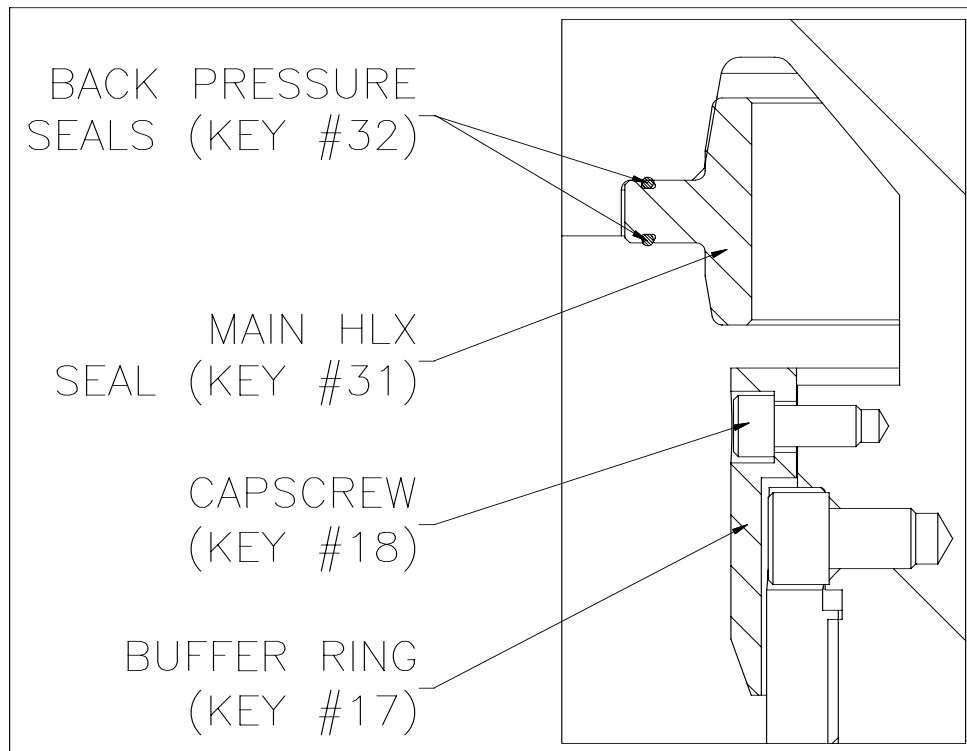

Figure 6.5: HLX Seal Replacement
For removal and assembly of the HLX seal, please refer to Assembly Drawing (section 7.0) and Figure 6.5 below and proceed as follows:
1. Remove the four capscrews (item 18) retaining buffer ring (item 17) to insert. While supporting HLX seal (item 31), remove buffer ring (item 17), which is a two-piece, split ring assembly. Remove HLX seal (item 31). (See Figure 6.5).
2. Ensure back pressure seals (item 32) are installed into HLX seal (item 31). (See Figure 6-5)
3. Install HLX seal, being careful not to damage the outside diameter of the seal (See Figure 6-5).
4. Reinstall buffer ring (item 17), aligning holes in ring with corresponding holes in the canister. Secure with capscrews (item 18). Utilize loctite 271 threadlocker on capscrew threads. Torque capscrews to 4 ft-lbs. (See Figure 6-5).